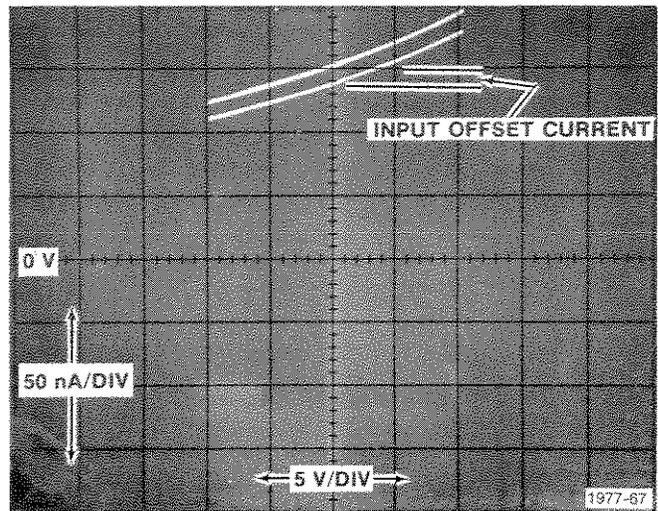

Fig. G-4. Input offset current.
d. Check that the input offset current (represented by the vertical separation between the +INPUT I and -INPUT I traces) is 4 divisions. If greater resolution is needed, change the VERT UNITS/DIV switch to a more sensitive position and repeat the test. The display should resemble that of Fig. G-4.